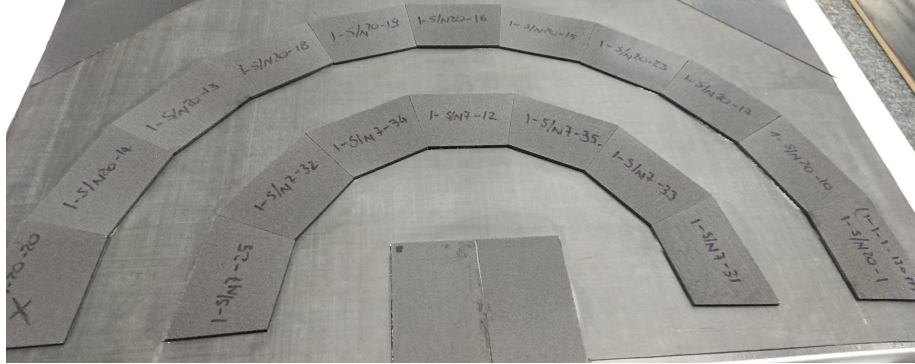

Figure 3: Half-Sandwich assembled
In Fig. 3 a picture of one of these OEC Half-Sandwich L4 produced by Genova is shown.
- Look at the HS on the table with the concavity facing down (as you can see in Fig. 3).